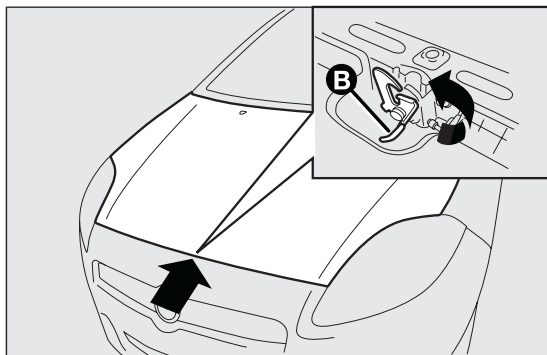

fig. 99
- pull lever B fig. 99 and lift the bonnet.